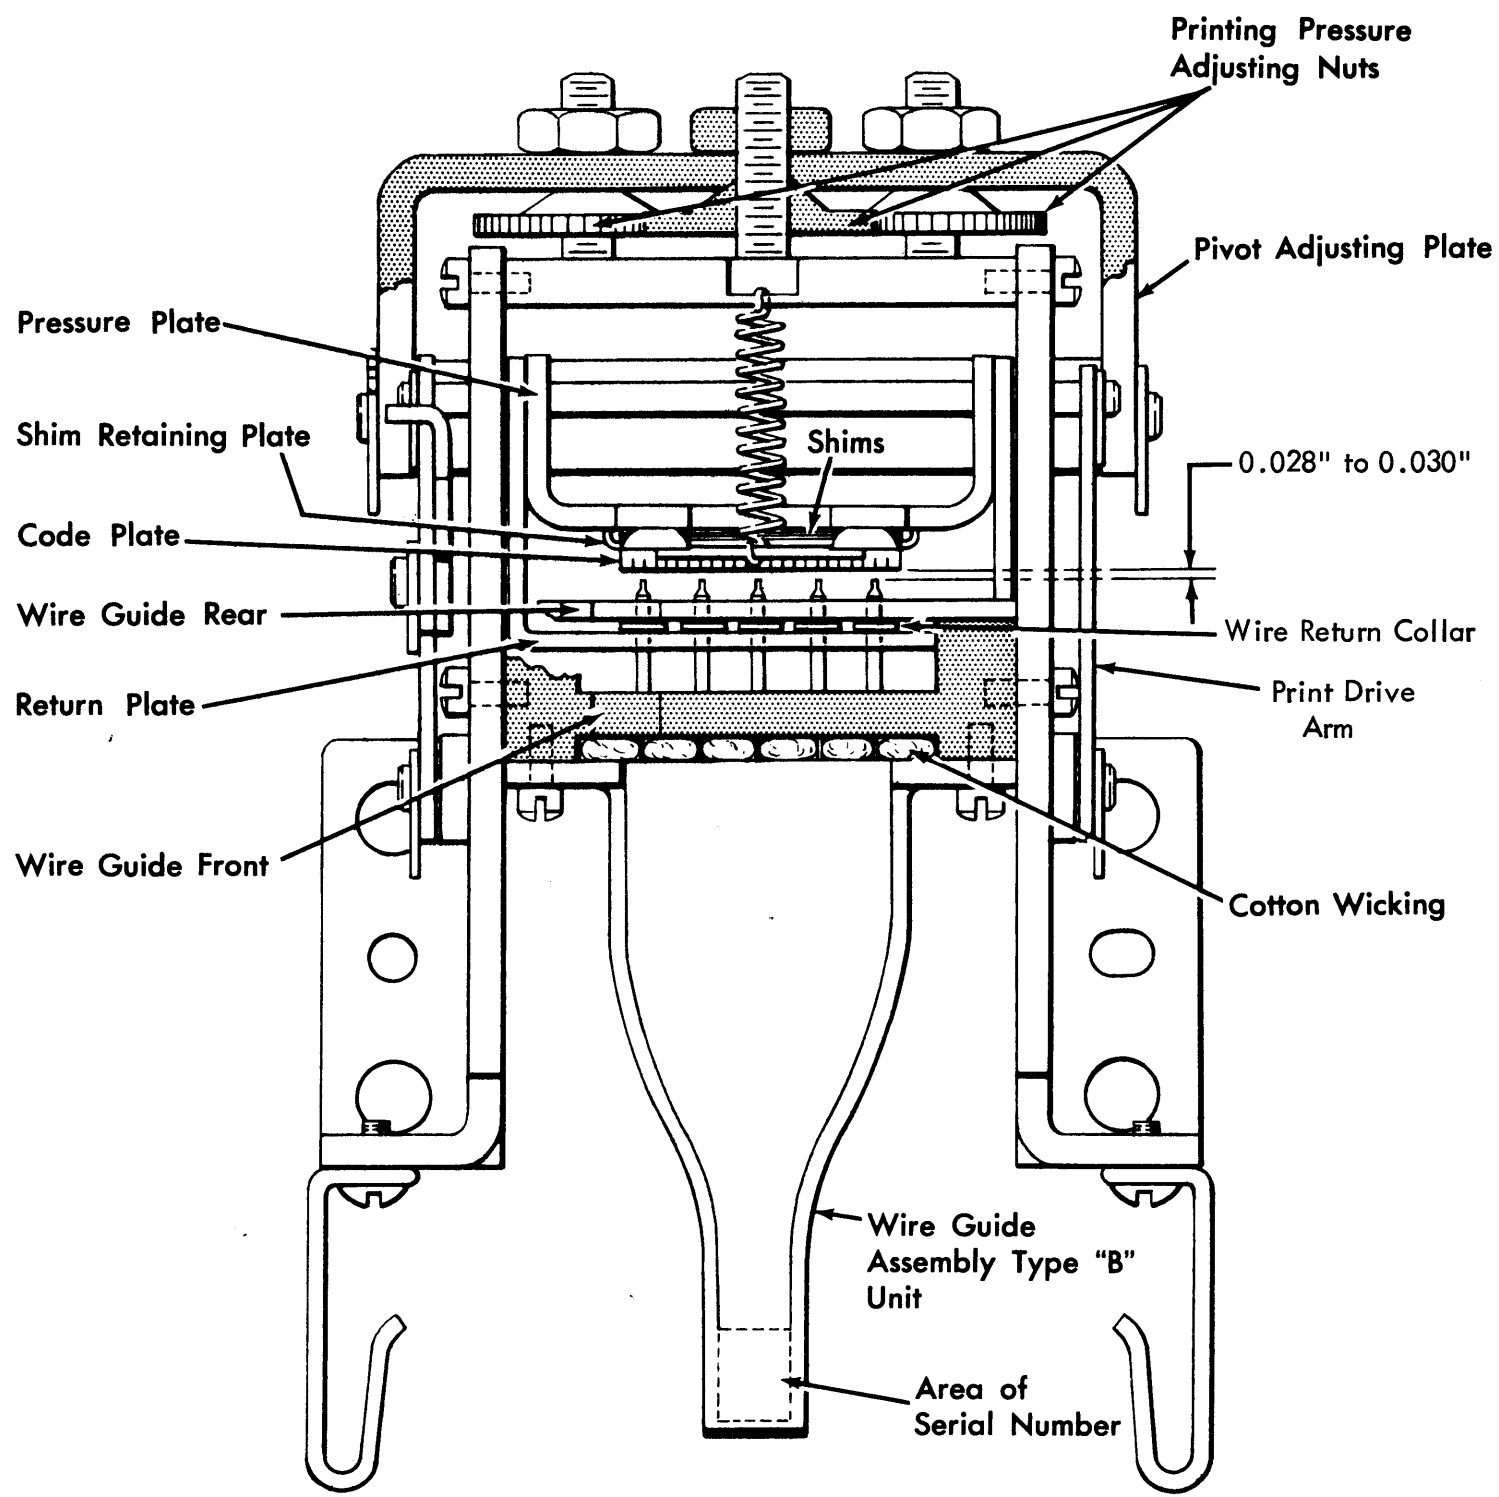

Figure 4-43. Printing Adjustment
1. Start with one 0.003-inch shim (part 305243) and two 0.007-inch shims (part 228296) between the pressure plate and the shim retaining plate (Figure 4-43).
2. Turn the three large pressure plate adjusting nuts counterclockwise until snug (Figure 4-43). Lock them in this position.
1. Turn in evenly on the three adjusting nuts (Figure 4-43), 1/4 turn at a time, until printing is obtained. Tighten lock nuts after each step and space before punching to prevent damage to wires. A practical test to show uneven printing can be obtained by disengaging the ribbon feed pawl and printing an H until the printing grows faint. Too much printing pressure will make the machine noisy and cause marks to appear when spacing.
their normal return after printing. If necessary, remove code plate shims and readjust printing pressure to maintain enough clearance to prevent wire return collars from striking wire-guide rear (Figure 4-43). Code-plate-to-wire clearance should now be 0.028 inch to 0.030 inch.
1. Remove the four holding screws and lift off the rear wire-guide plate (Figure 4-43).